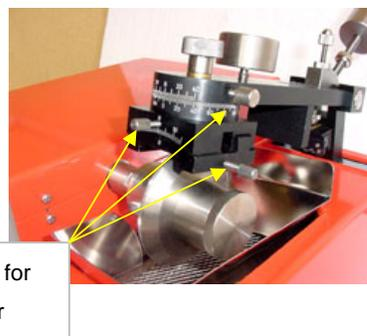

Fig. 3
- 5.2.4 Please tighten the screws on sample holder for two angle adjustment and sample holding plate (as Fig. 3), otherwise sample may drop down during cutting